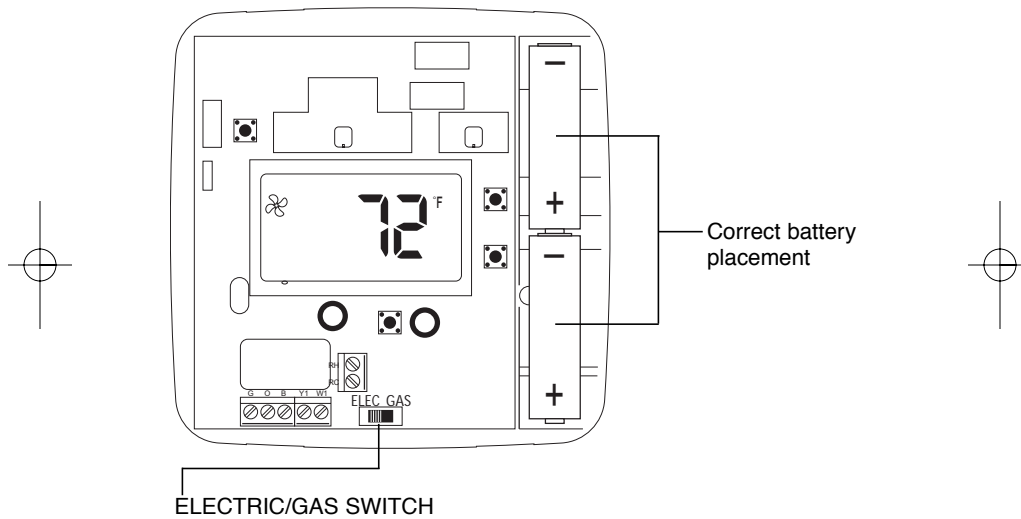

Figure 5
15. Set the Electric/Gas switch to ELEC (Figure 5).
16. Install two AA Energizer® brand batteries or equivalent into battery compartment as shown (Figure 5).